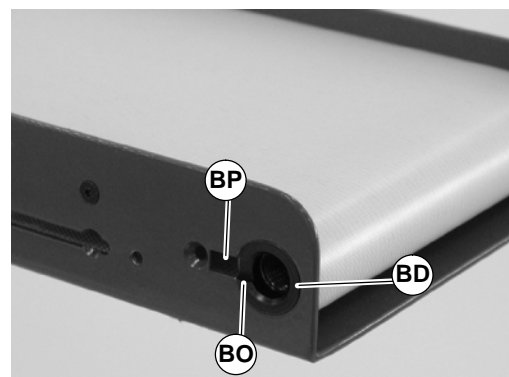

Figure 44
9. Using sleeve arbor tool (BK) as a lever, push the retaining sleeve (BD) fully in.
10. Align slot (BO of Figure 44) in retaining sleeve (BD) with slot in conveyor frame (BP).